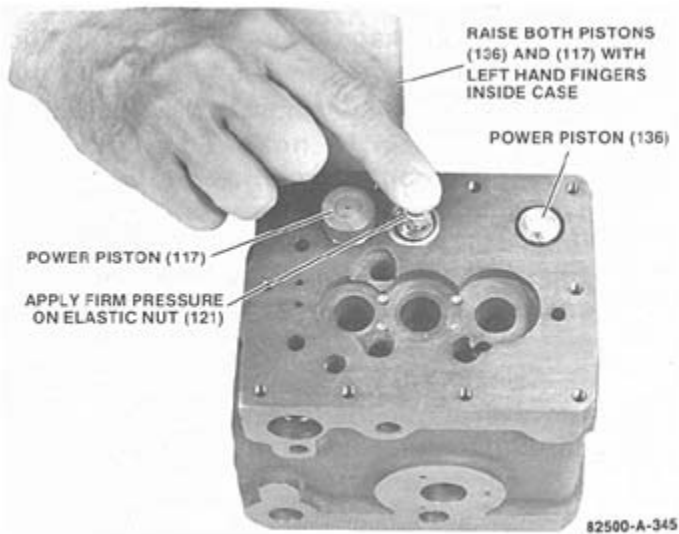
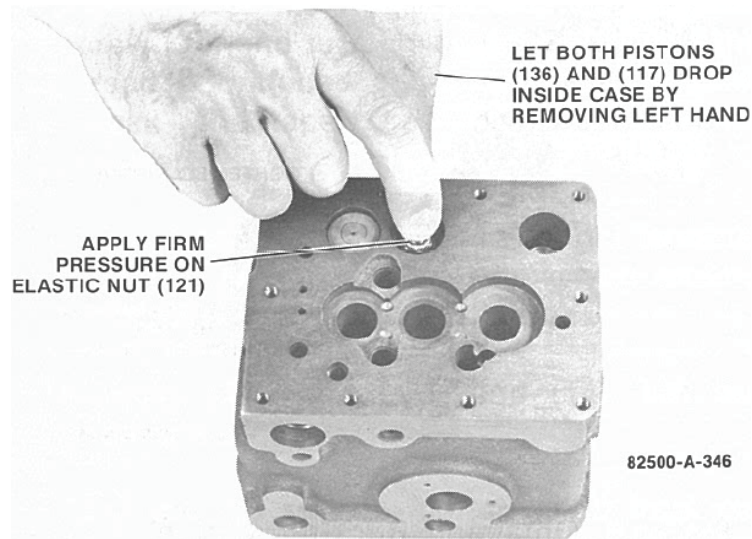

Figure 4-2. Raising Power Pistons
Figure 4-3. Dropping Power Pistons
- (1) If the voltage is within this range, proceed to step 5B below.
- (2) If the voltage is not within this range, remove screw (part 8, Figure 4-3) in the actuator cover. Insert a 1/8 inch hex wrench into the null voltage (part 57, Figure 4-3) and turn it slowly to adjust the voltage across terminals 17 and 18 of the EG-A control box or terminals 4 and 5 of the EG-M control box to be between +0.75 and +0.4 volt.
The numbers in parentheses in the following steps refer to the identification numbers shown in Figure 4-3.
- b. Apply pressure on elastic nut (121) with index finger and raise both pistons (136) and (117) with inside hand. See Figure 4-2. Remove inside hand quickly to allow piston linkage assembly to drop sharply in order to remove all stickiness and insure proper seating. See Figure 4-3. Repeat this step three or four times.